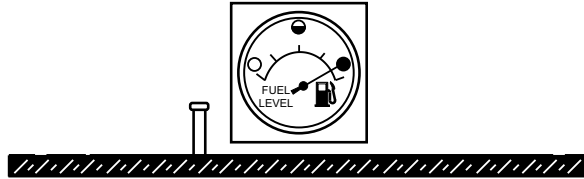

Figure 27. Full Fuel Tank
3. **NEVER overfill the fuel tank** — It is important to read the fuel gauge when filling the trailer fuel tank. **DO NOT** wait for fuel to rise in the filler neck (Figure 27).